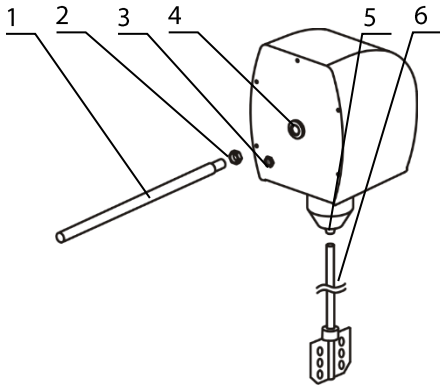

Figure 2. Assembly
- Screw the nut (fig. 2/2) on the support stand (fig. 2/1);
- Screw in the support stand (fig. 2/1) in the opening (fig. 2/4) on the rear side of the Multi Mixer. Fasten the fixing rod by tightening the nut (fig. 2/2) clockwise;
- Fasten the stirring element axle (fig. 2/6) in the clamping chuck (fig. 2/5) without applying excessive sideways force;
- Plug the external power supply into the socket at the rear side of the unit (fig. 2/3);